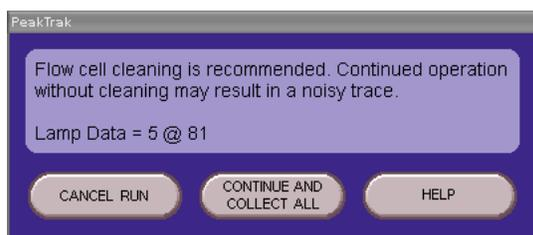

Figure 6-2 Flow cell cleaning message
- frequent messages recommending flow cell cleaning (Figure 6-2).
When the lamp energy is lower than normal, the system will recommend flow cell cleaning (Figure 6-2) before starting a separation run.
When the indicator is in the yellow, the lamp energy and flow cell are ready for the next run. However, continuing the cleaning for greater raw lamp energy should reduce the frequency of flow cell cleaning messages (Figure 6-2).